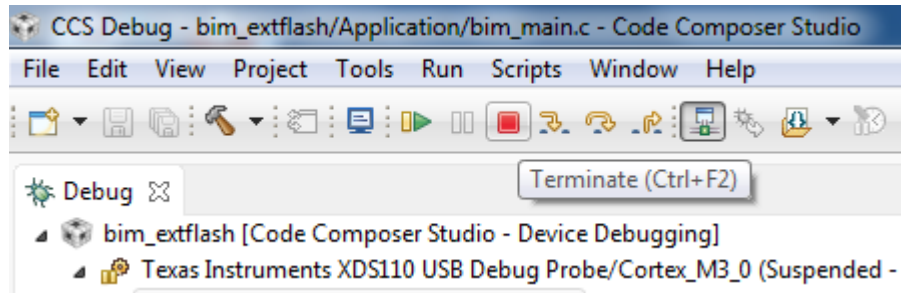

Figure 36, Terminate Debug Session.
- d. Click the red stop square on the toolbar to stop the debug session. (Figure 36)